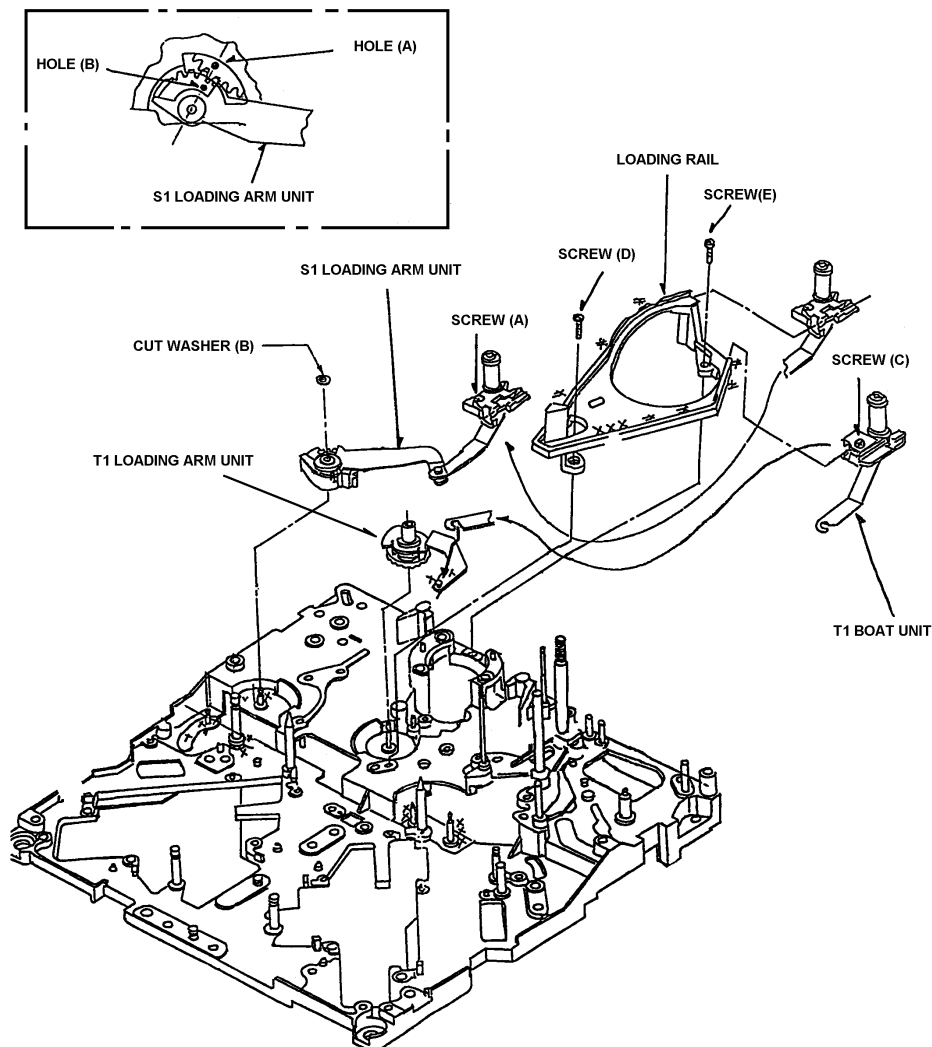

Fig.6-14-1 Removal of S1 Post Loading Arm Unit
3. Remove the S5 Post Base Unit (Refer to item 6-12).
4. Remove the Tension Arm Unit(Refer to item 6-13).
5. Unscrew the screw (A) and remove the S1 Post from Loading Rail as shown in Figure 6-14-1.
6. Remove the Cut Washer (B) and remove the S1 Loading Arm Unit as shown in Figure 6-14-1.
1. When install the S1 Post Loading Arm Unit, then the hole (A) should be matched hole (B) as shown in Figure 6-14-1.
3. Unscrew the screw (C) and remove the T1 Post from Loading Rail as shown in Figure 6-14-1.
4. Hang off the T1 Boat Unit from T1 Loading Arm Unit as shown in Figure 6-14-1.
3. Remove the cylinder Unit (Refer to item 6-1).
4. Move the T1 Post to loading direction by manual ejecting method until the screw (D) can be removal position as shown in Figure 6-14-1.
5. Unscrew the 2 screws (A) and (C), then remove the S1 and T1 Post from Loading Rail as shown in Figure 6-14-1.
6. Unscrew the 2 screws (D) and (E), then remove the Loading Rail as shown in Figure 6-14-1.
7. Remove the T1 Loading Arm Unit as shown in Figure 6-14-1.